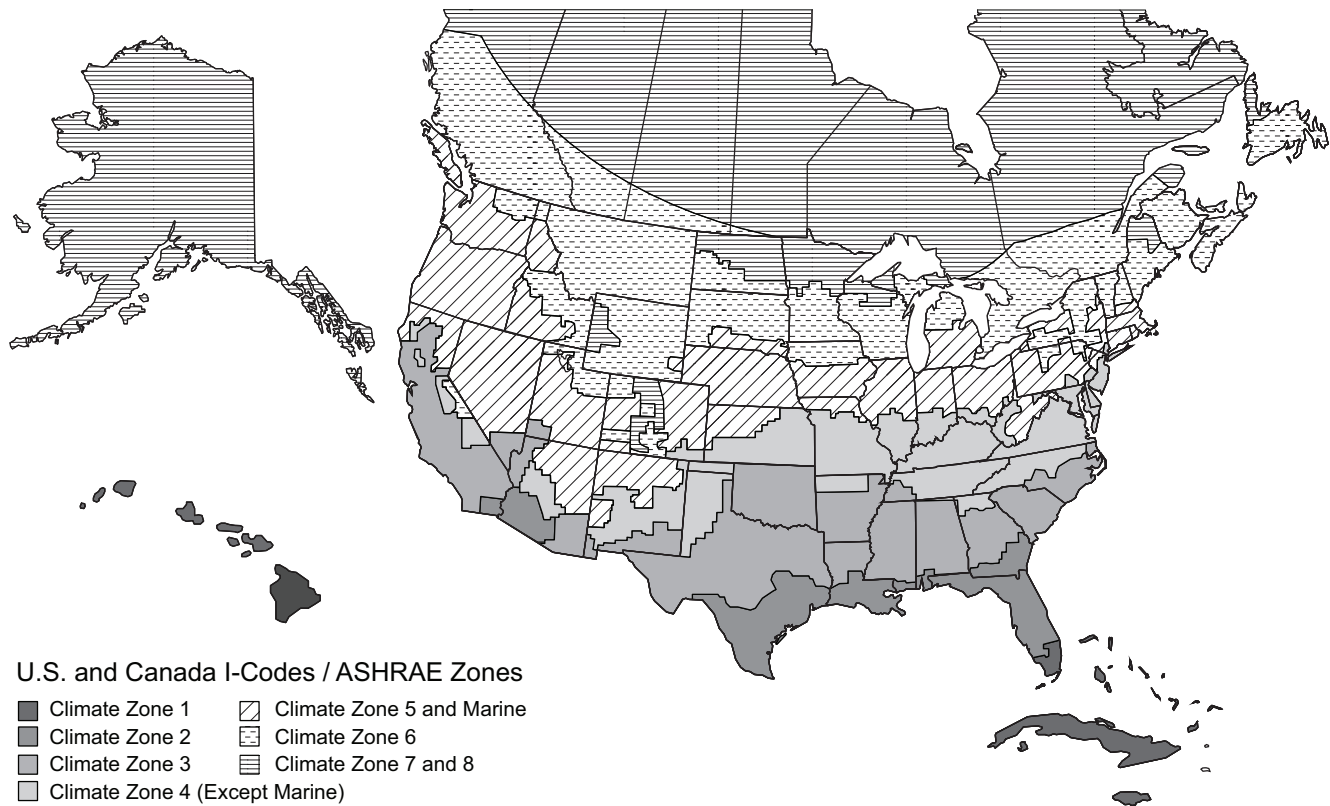

Fig. 98 — U.S. and Canada Climate Zones
- a. See Fig. 98 for map of U.S. and Canada climate zones.